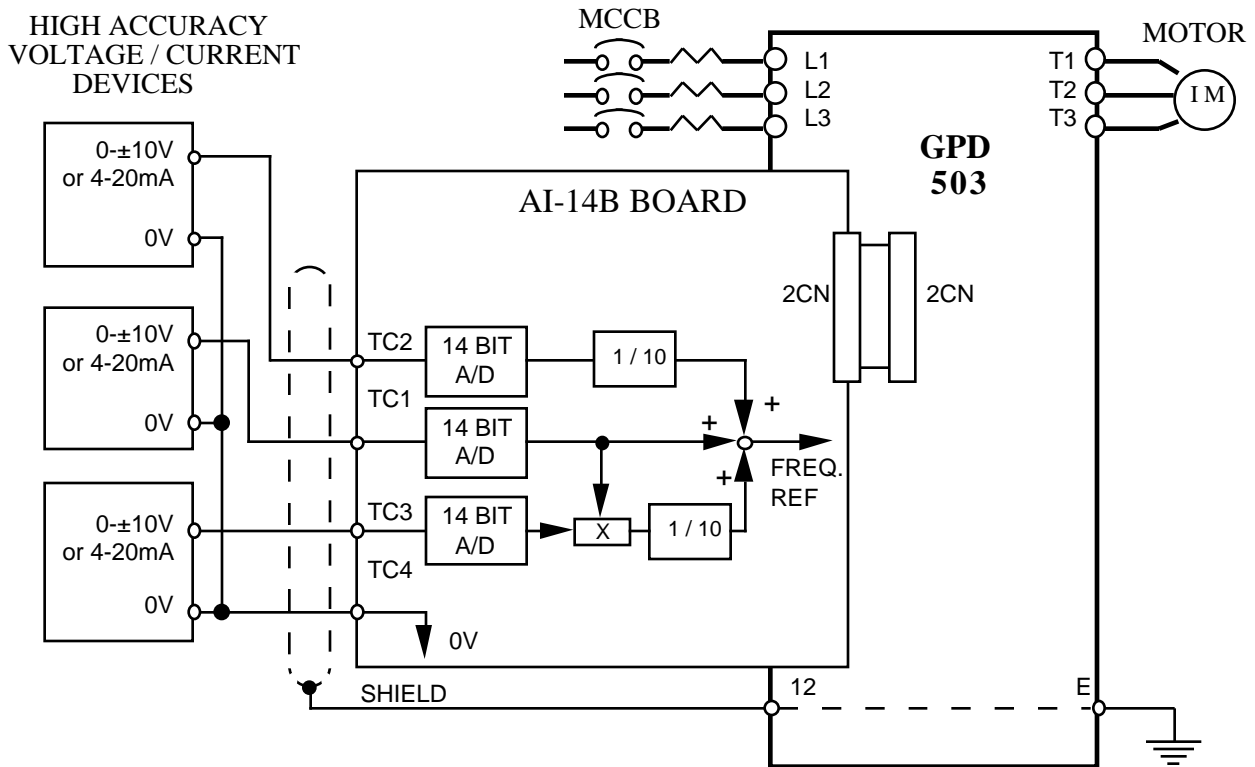

Figure C3. Interconnection for Analog Speed Reference (AI-14B) Circuit in GPD 503
6. Wiring. See Figure C3 for Analog Speed Reference connections. See Table C2 for terminal functions.